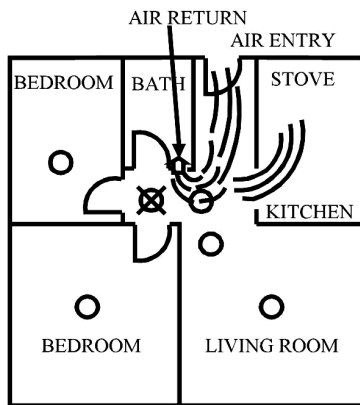

Fig. 6: Recommended detector locations to avoid air streams with combustion particles
- When air streams pass by kitchens, how a detector can sense combustion particles in normal air-flow paths is graphically shown in **Figure 6**, which indicates the correct and incorrect detector locations concerning this issue.